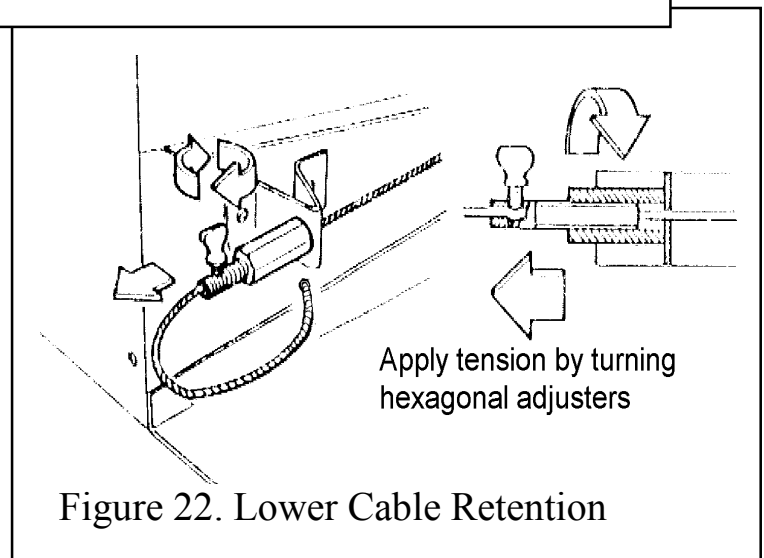

Figure 22. Lower Cable Retention
11. Pull each cable taut. Push the cable retainers hard up against the “V” brackets. Tighten the screws in the retainers so that they clamp the cables in position. Apply tension to the cables by turning the hexagonal adjusters by hand. See figure 22.